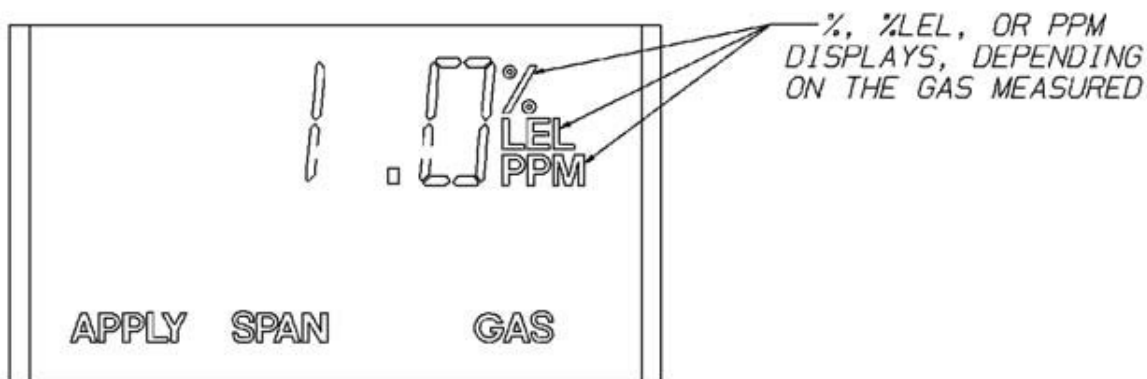

Fig. 27 Apply SPAN Gas Flag
- (5) During a regular calibration, the Ultima X Series Gas Monitor automatically begins the span countdown after a successful zeroing of the unit. The span countdown is 30 seconds (Fig. 27).